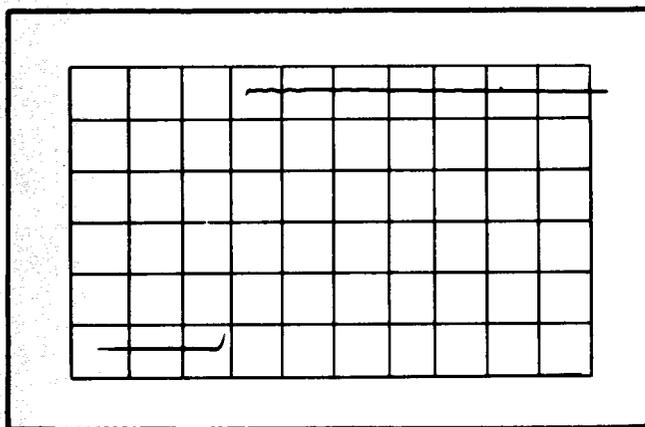

Fig. 5-6. Typical CRT display showing correct high-frequency compensation.
d. CHECK-CRT display for optimum square-wave response (see Fig. 5-6).
g. CHECK-CRT display for optimum square-wave response (see Fig. 5-6).
j. CHECK-CRT display for optimum square-wave response (see Fig. 5-6).
n. CHECK-CRT display for optimum square-wave response (see Fig. 5-6).
q. CHECK-CRT display for optimum square-wave response (see Fig. 5-6).
t. CHECK-CRT display for optimum square-wave response (see Fig. 5-6).